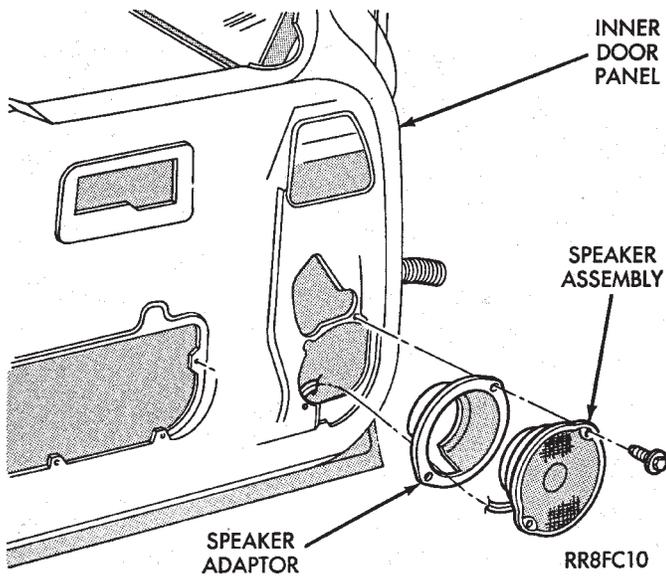

Fig. 24 Front Door Mounted Speaker—AG Body
- (1) Remove door trim panel.
- (2) Remove two speaker-adaptor retaining screws (Fig. 24).
- (3) Pull speaker away from door and disconnect wiring.
- (4) For installation reverse above procedures.